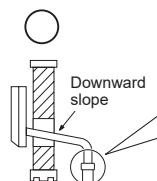

Fig. 2
- Pull out the drain hose at the back left of the indoor unit. (Fig. 2)
- The drain hose should point downward for easy drain. (Fig. 2)
Installation procedure (Fig. 2)